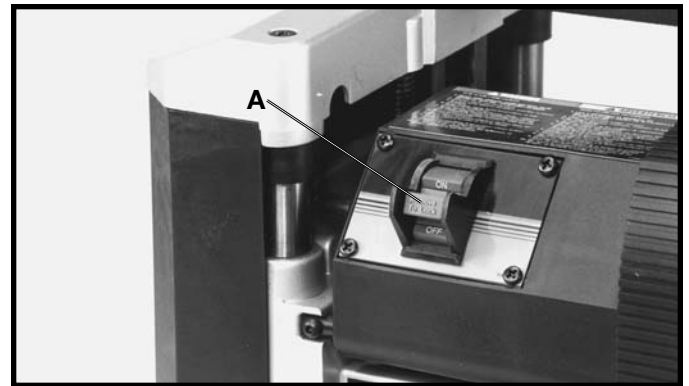

Fig. 14
The on/off switch (A) Fig. 14, is located on the front of the planer motor. To turn the machine "ON" move the switch up to the "ON" position. To turn the machine "OFF" move the switch down to the "OFF" position.